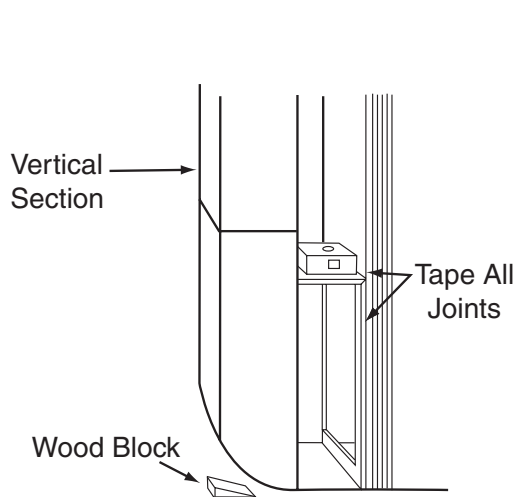

Figure 15
5. Connect the vertical duct section to the elbow. Wedge a wood block between floor and elbow for support (Figure 15).